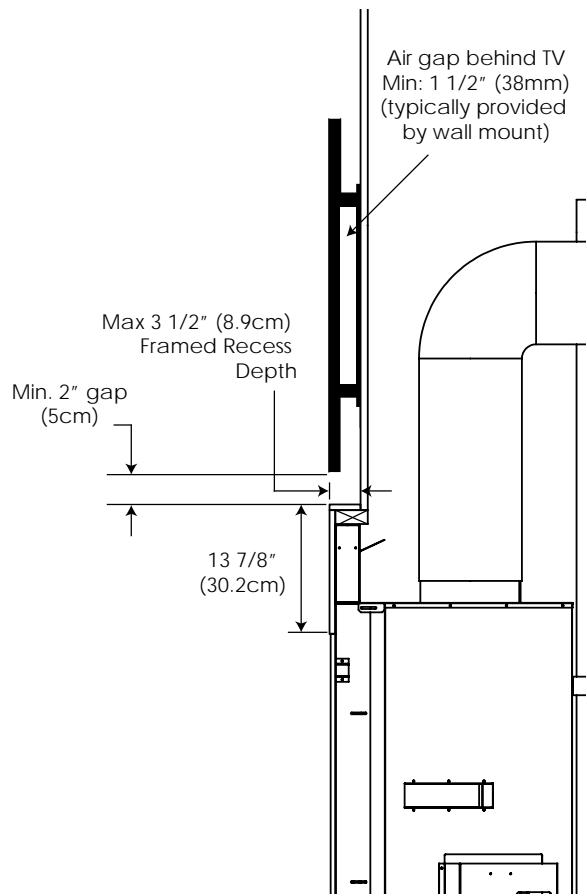

Figure 60: Recess Minimum TV Install
**Recess/Mantel Installation:** Always maintain minimum clearances (see Figure 60). The total depth of the TV and wall mount as well as the recess depth will determine the minimum whether or not a mantel is recommended. A mantel may not be needed if the TV and Mount are low profile enough.